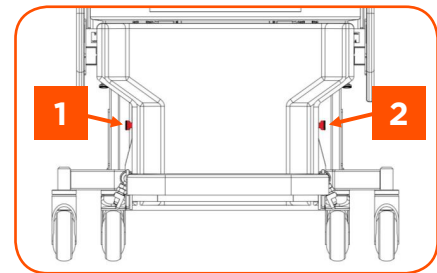

FIGURE 15
3. Locate the footplate height adjustment plungers on either side of the legrest (Fig 15, Items 1&2).